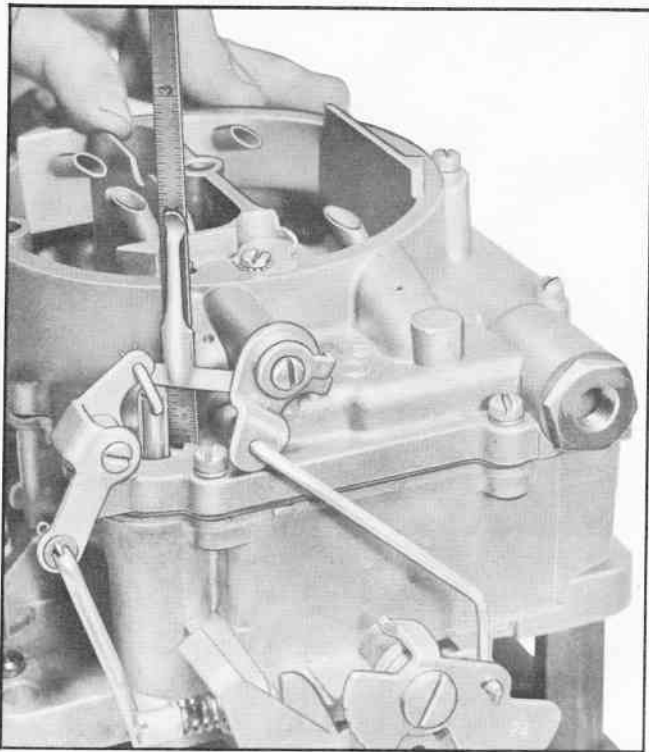

Fig. 26 Checking Pump Adjustment
2. Distance from top of bowl cover to top of plunger shaft should be $9/16$ " (Fig. 26).